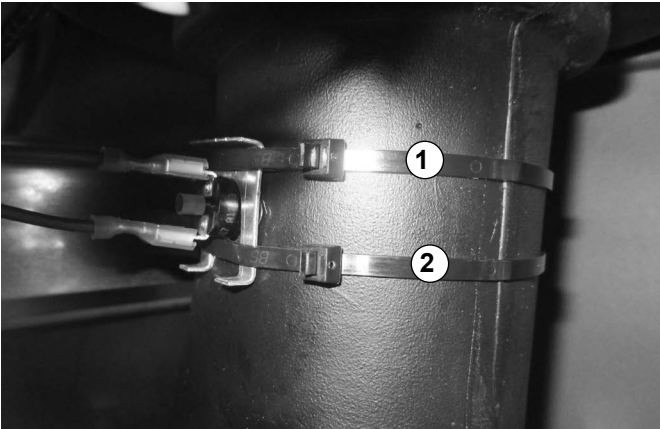

Figure 2. Cut and remove two (2) zip ties.
- Cut the two (2) zip ties attaching the vent switch to the vent diffuser (Figure 2).